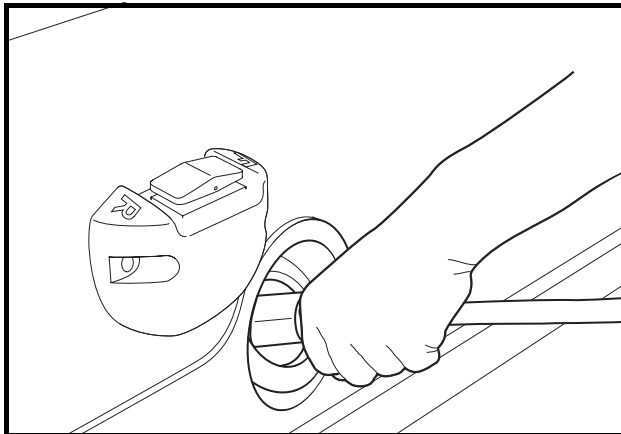

Figure 27 Correct Insertion of Charger DC Plug
- Do not rock or bend the plug. To connect the charger plug to the vehicle receptacle, grasp the plug handle and push the plug straight into the receptacle (Figure 27, Page 40).
Insert the charger DC plug into the vehicle receptacle. The charger will turn on two to ten seconds later (**Figure 27, Page 40**).